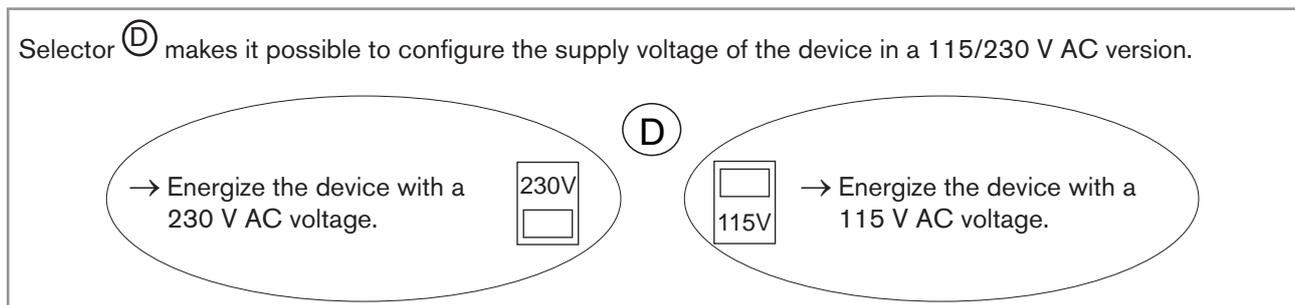

Figure 23: Selector of the supply voltage on a 115/230 V AC version
→ If the compact version of the 8025 Batch is energized with a 115/230 V AC power supply, set selector (D) as shown in "Figure 23".